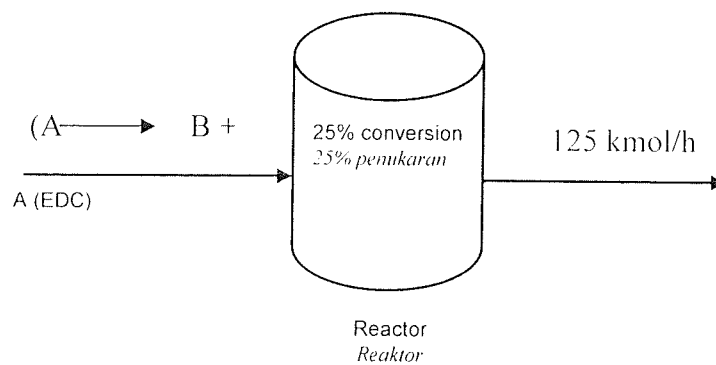

Figure 4 - Decomposition reaction of ethylene dichloride
- [b] Based on Figure 4, if the total product stream leaving the reactor is 125 kmol/h, and the conversion percentage is 25, what will be